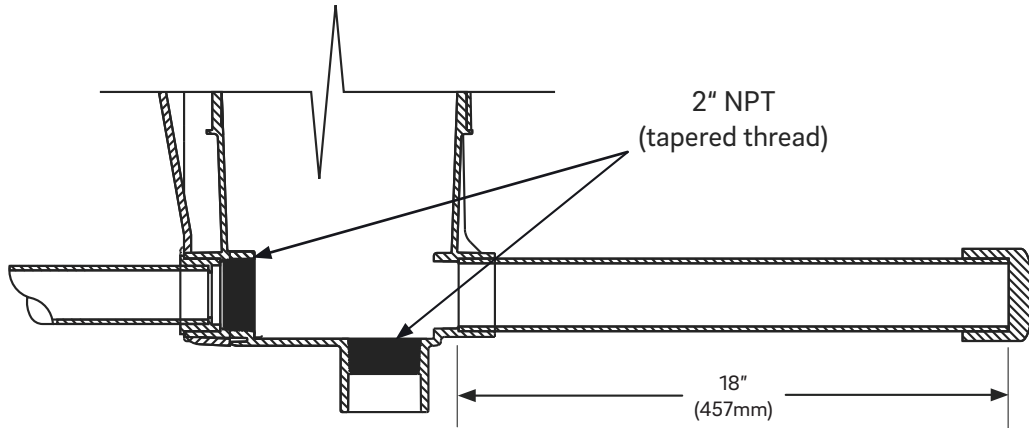
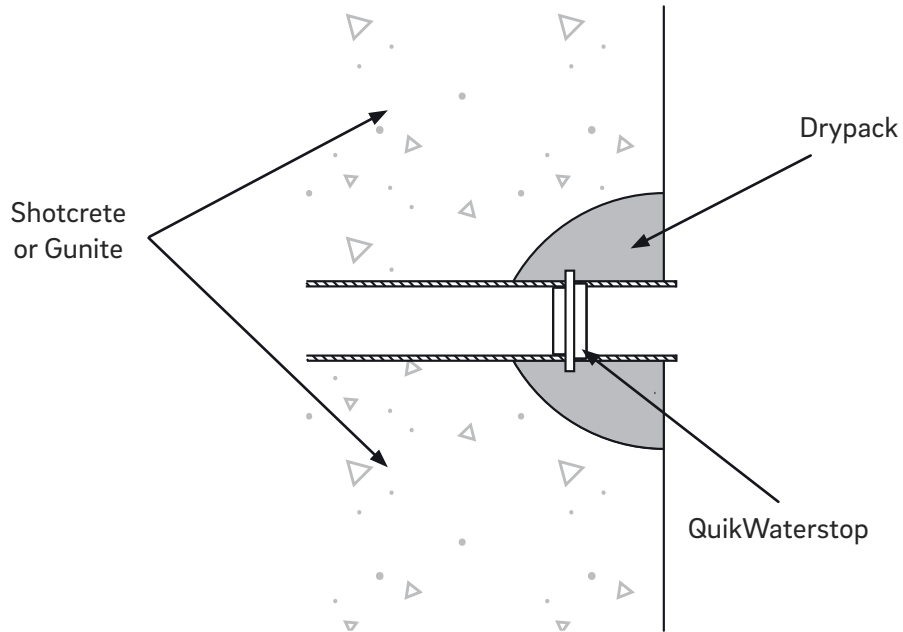

Figure 3
Figure 8
1. Glue an 18 inch length of 2 inch schedule 40 PVC pipe into the discharge port of the QuikSkim located at the lower front, below the mouth of the skimmer. Cap the end to prevent concrete from entering during the shotcrete or gunite process (Figure 3).
- Once the shotcrete is complete, cut the capped pipe that was installed on the venturi discharge line (Figure 3) so that it will be flush with the finished surface. Glue the pipe and slide the QuikWaterstop (Figure 9c) over the pipe and allow enough room to dry-pack behind it to ensure a waterproof seal (Figure 8).